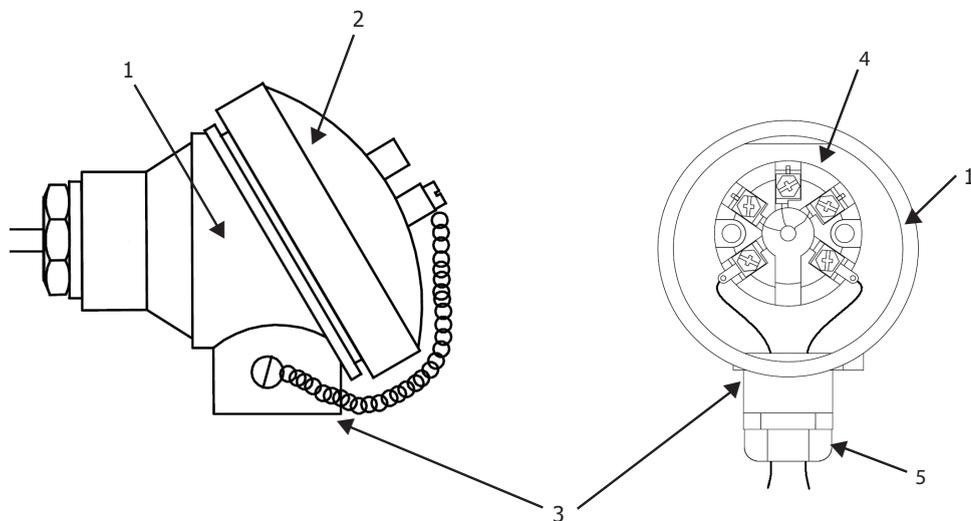

Figure 17 Temperature Transmitter Housing Example
- a. Cable connection to the temperature transmitter is made via the terminal block (4) accessed by removing the terminal housing lid (2) (Figure 17).